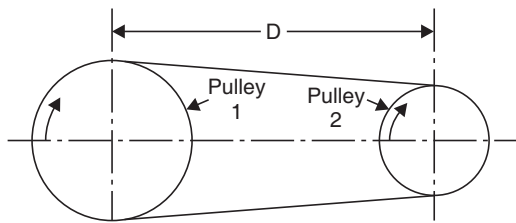

FIGURE 9.8. Open belt.
Two shafts may be connected by an open belt or a crossed belt as shown in Figs. 9.8 and 9.9 respectively. When the shafts are connected by an open belt, the two shafts rotate in the same direction but when the shafts are connected by a crossed belt, they rotate in the opposite direction. The length of open belt (L) connecting two pulleys of radii r_1 and r_2 and at a centre distance D apart, is given by